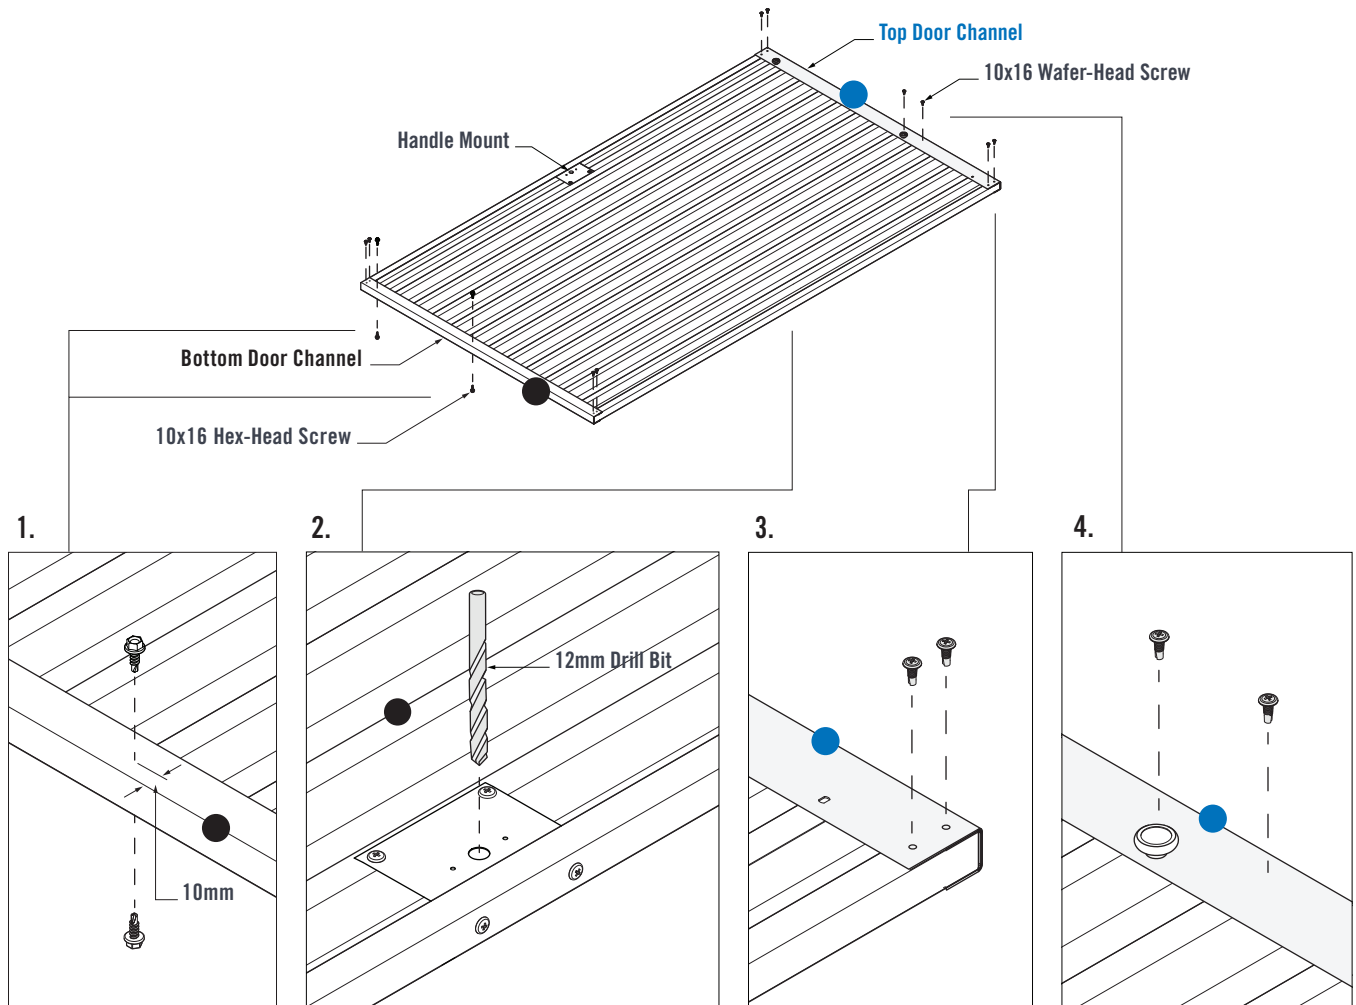

FIGURE 5.6
1. Fasten a 10x16 Wafer-Head Screw through the Door Spacer and into the mid-point pilot hole of the Bottom Door Channel. Fasten a Door Spacer near the Handle Mount end pilot hole of the Bottom Door Channel. Flip over the Door Assembly so that the underside is now facing up. Fit two more Door Spacers in the same manner on the opposite side of the Bottom Door Channel (Figure 5.6).
2. Using the holes in the Handle Mounts as a guide, drill a $\varnothing 3.5$ mm pilot hole, then $\varnothing 12$ mm hole through the Wall Sheet (Figure 5.6).
3. Fasten two 10x16 Wafer-Head Screws through pilot holes in the Top and Bottom Door Channels and into the Vertical Door Channels at all four corners (Figure 5.6).
4. Fasten a 10x16 Wafer-Head Screw through the Top Door Channel and into the two Sheet Crests on both sides of the Door Wheel (Figure 5.6).